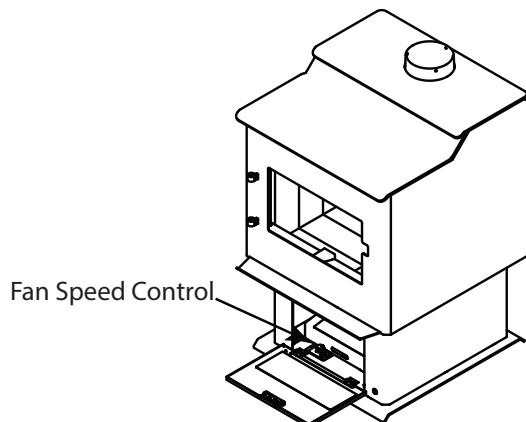

Figure 5.8
12. Remove the 2 screws on the inside front left edge to remove the fan speed control plate. **See Figure 5.8.**